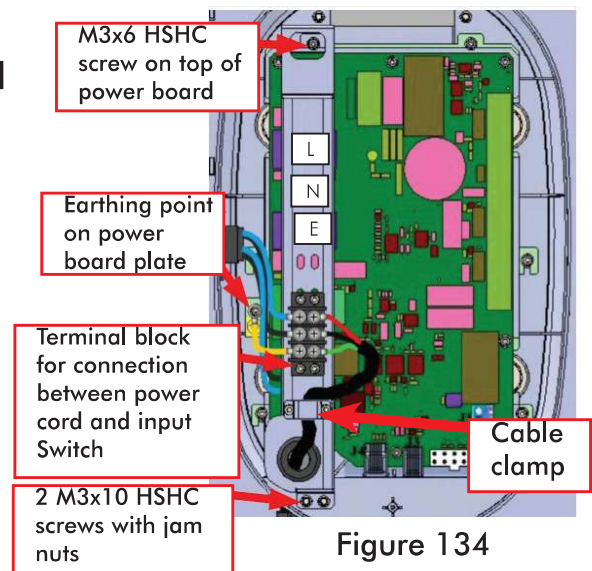

Figure 134
- Disconnect the "Live, Neutral and GND wires(Ring terminals) of power cord connected to the terminal block using screw driver as shown in Figure 134 and remove the clamp which is used to hold the power cord at bottom to the terminal block by removing 2 M3X6 HSHC screws using 2.5 mm allen key as shown in Figure 134 .
- Remove the power board clamp from the base unit by removing 1 no. of M3X6 HSHC Screw on top side of the power board using 2.5 mm allen key and 2 no's of M3X10 HSHC screws, plain washers and Jam nuts (screws will be inserted from rear side and nut with washer to be fixed from front side) using 2.5 mm allen key and 5.5 mm nut driver at the locations shown in Figure 134 .
- Remove the cable clamp by removing 2 no's of M3 socket head screws using 2.5mm Allen key as shown in Figure 134 .
- Fix back the cable clamp holding the power cable with 2 no's of M3 Socket head screws using 2.5mm Allen key as shown in Figure 134 .
- Route the power cord cable through the hole provided in the base unit clamp as shown in Figure 134 . Connect the "Line, Neutral and earthing wires (Ring terminals) of the power cord on the terminal block using cross recessed screw driver as shown in Figure 134 . Fix the clamp used for holding the power cord at the bottom side of the terminal block as shown in Figure 134 .